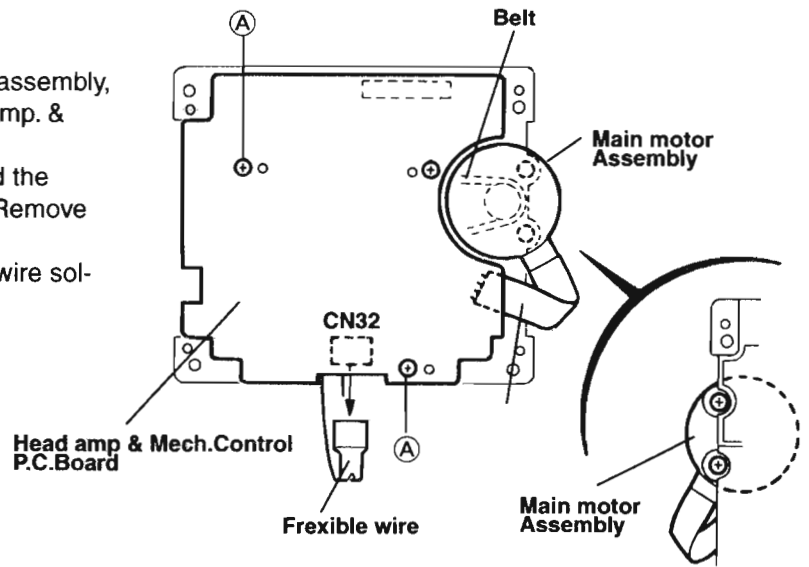
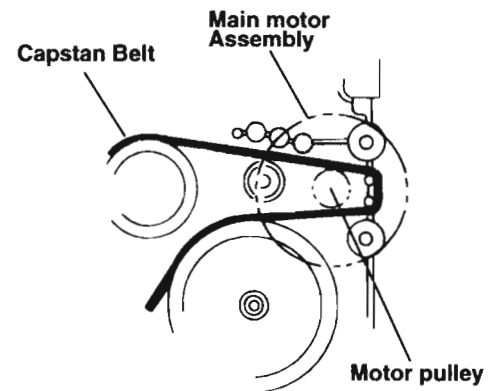
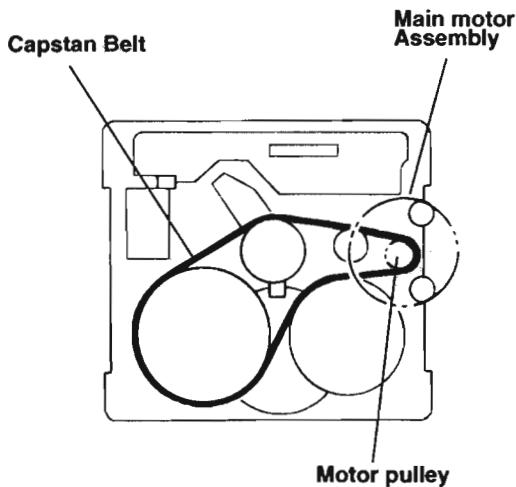
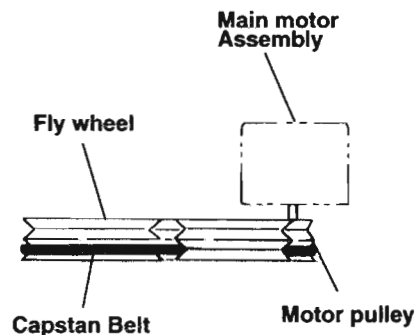

Fig.4
Fig.5
Fig.6
Fig.7
(See Fig.4)**
(See Fig.4.Fig.5Fig6.Fig.7)**
- 1.Remove the 2 screws (B) retaining the main motor assembly.(See Fig.4.Fig.5)
- 2.While raising the main motor,remove the main motor belt from the motor pulley.(See Fig.5)
Caution: Be sure to handle the capstan belt so carefully that that this belt will not be stained by grease and other foreign matter.Moreover, these belts should be hanged while referring to the capstan belt hanging method in Fig.6.Fig.7.